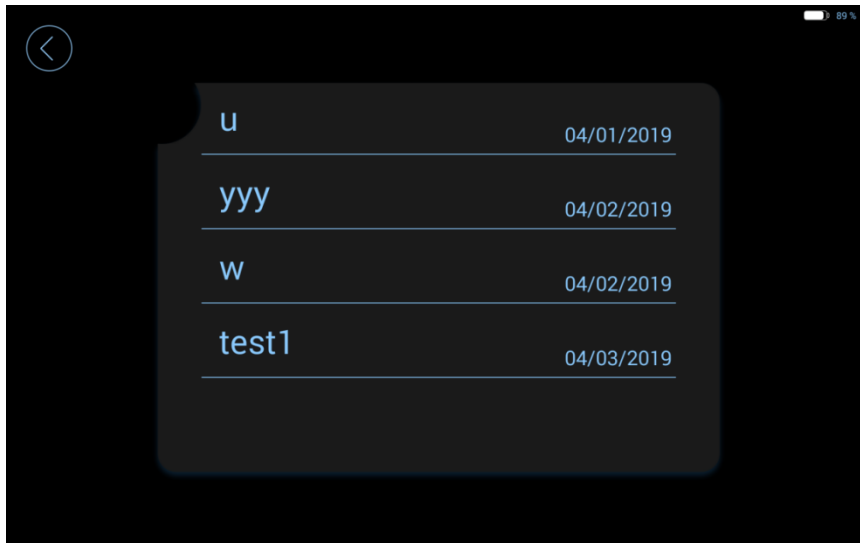

Figure 12. Saved custom protocols
12. Enter  from the home interface, users can check the saved custom protocols (Figure 12).